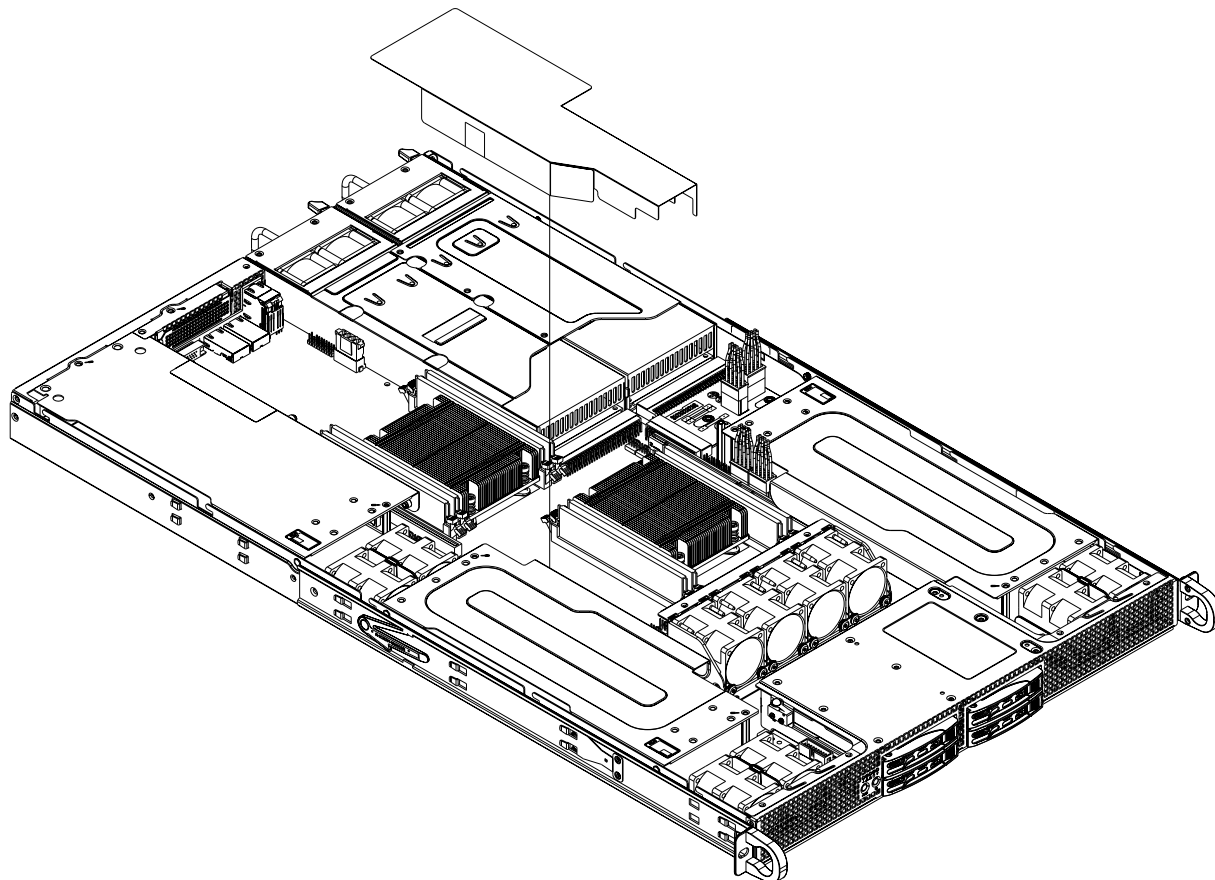

Figure 6-5 Cooling Fans Access Example
1. If you have not already done so, remove the chassis cover to access the fans, see the example in Figure 6-5 on page 54.